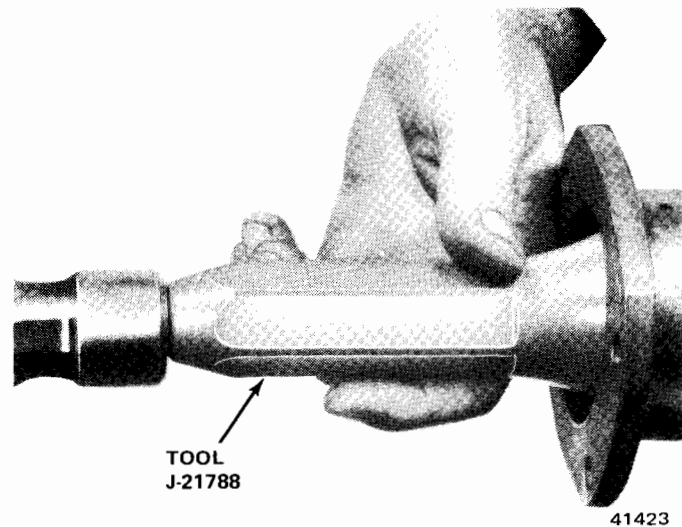

Fig. 10-21 Installing Inner Seal
(2) Coat outer surface of seal metal retainer with nonhardening sealer.
(3) Install inner oil seal with Axle Shaft Seal Installer J-21788 (fig. 10-21).
(4) Install axle shaft(s). Align splined end with differential gears.
(5) Install outer bearing cup.
(6) Inspect brake support plate for elongated bolt holes. Replace support plate if necessary.